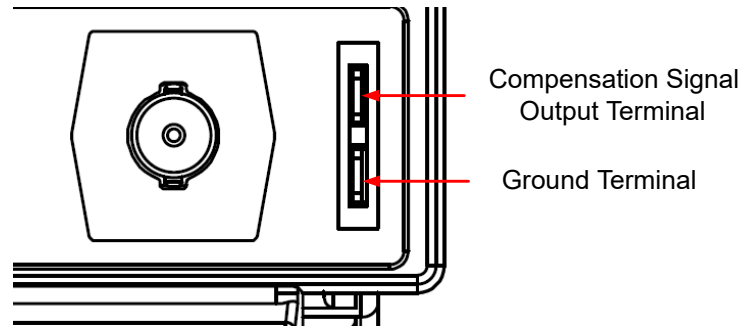

Figure 5.4 Using the Compensation Signal
2. Connect the ground alligator clip of the probe to the "Ground Terminal" as shown in Figure 5.4.
3. Use the probe to connect the input terminal of CH1 and the "Compensation Signal Output Terminal" of the probe, as shown in Figure 5.4.